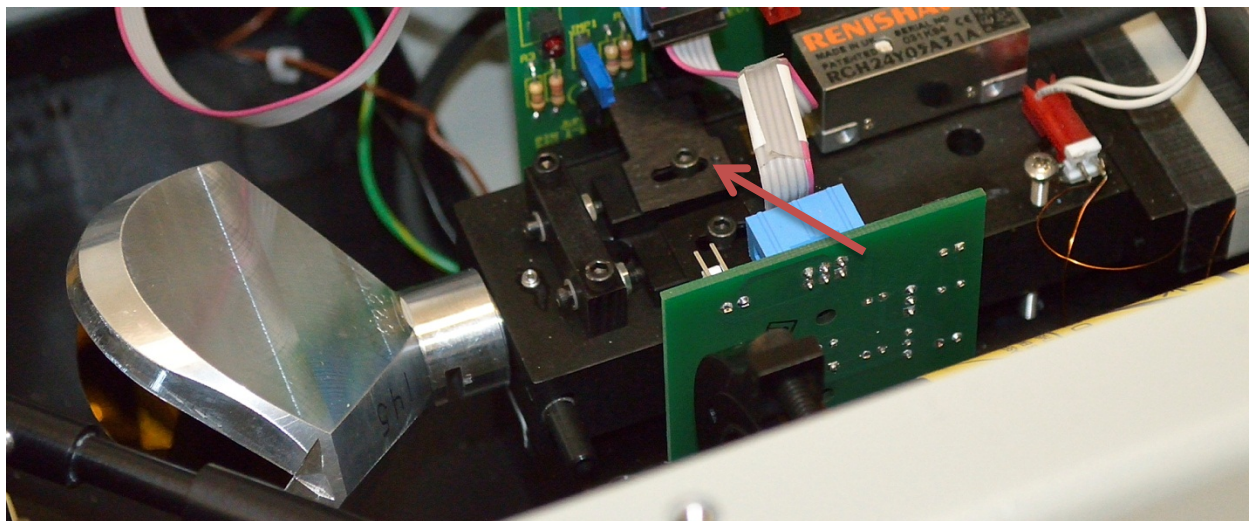

Figure 90: Opto Flag for ZPD Adjustment
3. With the provided #3-32 wrench, loosen the vertical screw on the optical flag by turning it $1/8$ of a turn counterclockwise, as shown in Figure 90.